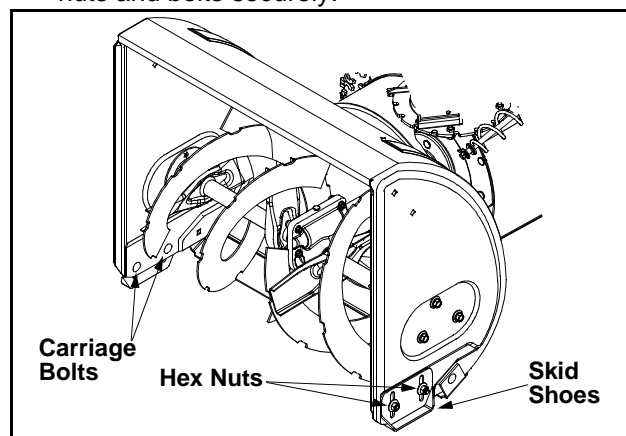

Figure 7
1. Place skid shoes in the low position to remove snow close to the ground. Place skid shoes in a higher position to remove snow from uneven ground. See Figure 7.